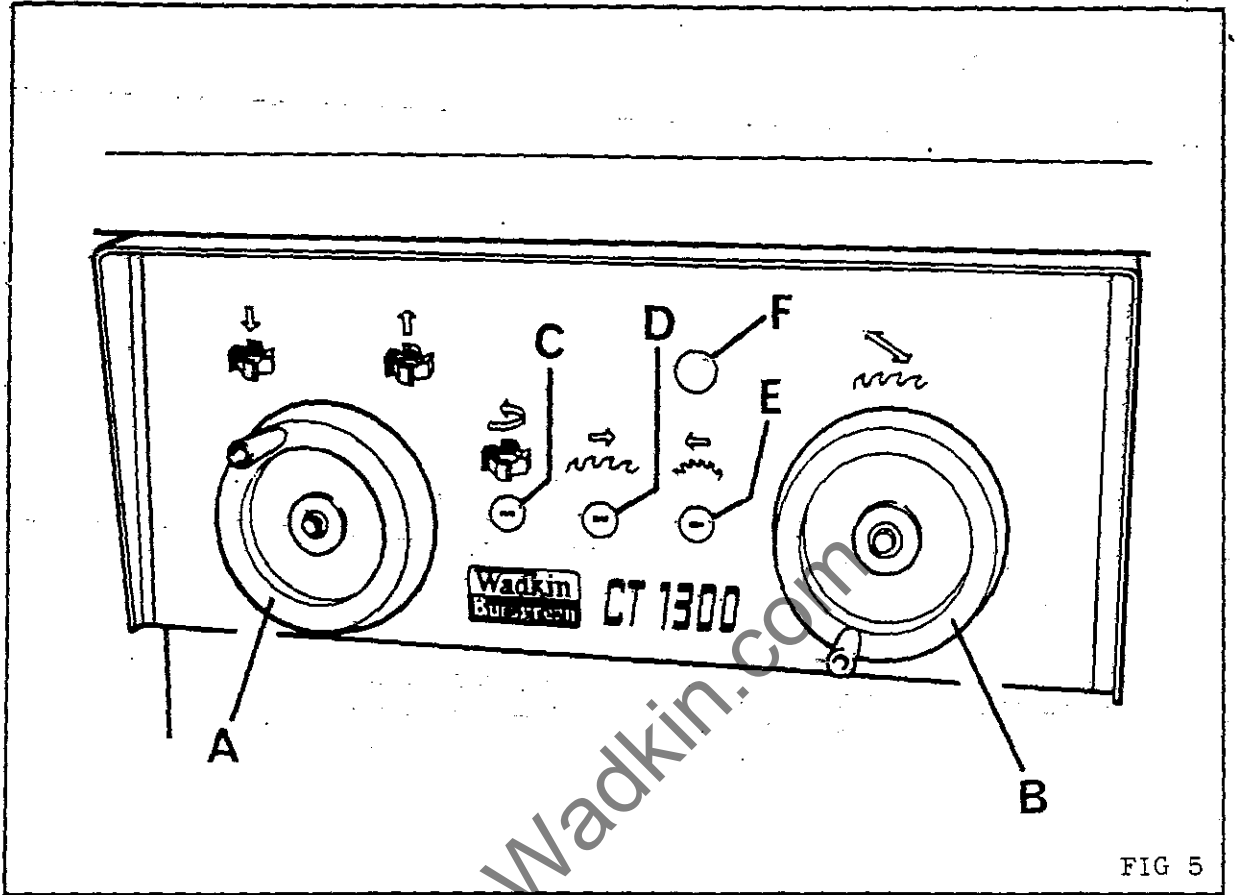

FIG 5
Work Spindle rise and fall is by handwheel "A" in FIG 5.
3. Main saw lateral adjustment is by handwheel "B" in FIG 5.
The electrical controls are fitted to the main control panel shown in FIG 5 and are situated in a grouped layout as follows:-